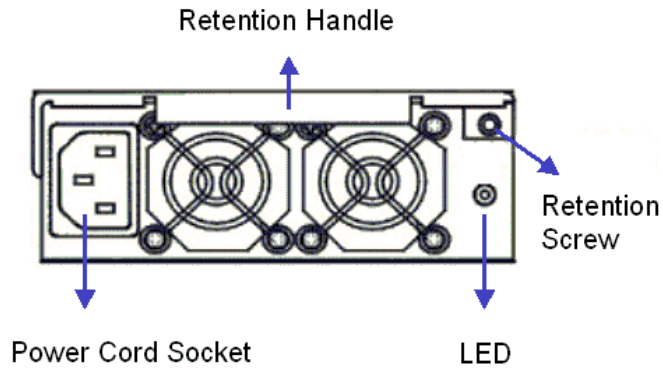

Figure 1-10: PSU Module
The A24F subsystem is equipped with three (3) hot-swappable, 1U-profile, 405W PSU modules (see *Figure 1-10*). The PSU modules are located on the rear panel of the subsystem.